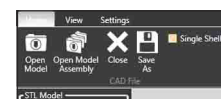

Fig. 64
4. When printing in a single material be sure to keep Single Shell selected. (Fig. 64)